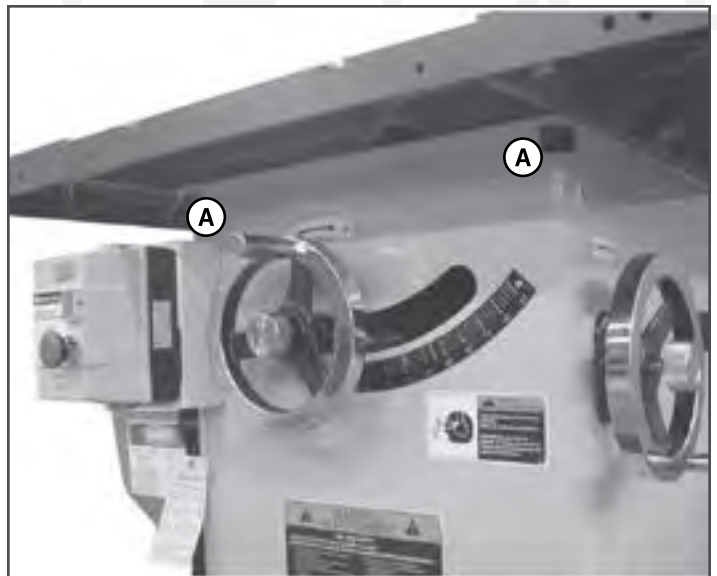

FIGURE 20: TABLE ADJUSTMENT SCREWS
1. Loosen the four hex socket cap screws (A) that hold the table to the base. See Figure 20, which shows the two socket cap screws at the front of the saw.